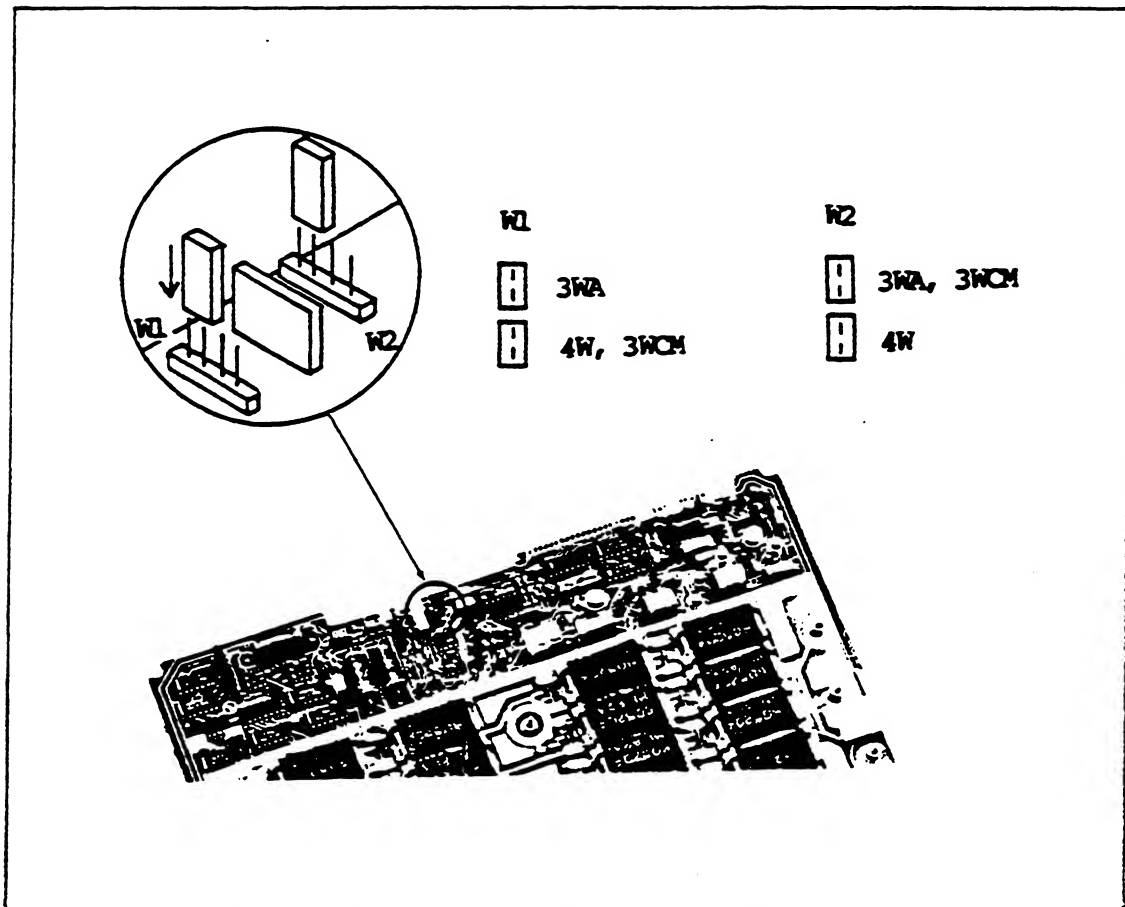

Figure 163-13. W1 and W2 Jumper Settings
4. Set jumpers W1 and W2 of the RTD/Resistance Scanner for 4W operation, and install the scanner in the option slot immediately below the A/D Converter. See Figure 163-13.
1. Ensure the RTD/Resistance Scanner's W1 and W2 jumpers are set for 4W operation. See Figure 163-13.
2. Set the W1 and W2 jumpers of the scanner for 3WA operation. See Figure 163-13.
2. Set the W1 and W2 jumpers of the scanner for 3WCM operation. See Figure 163-13.